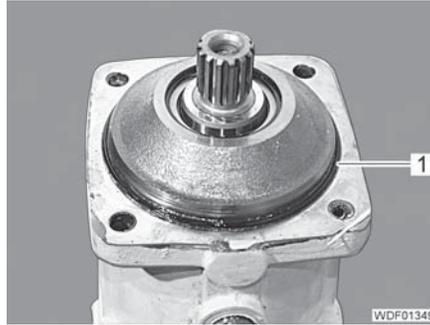

Fig. 121 Sealing the variable displacement motor
- Apply sealant along the O-ring (Fig. 121,1).